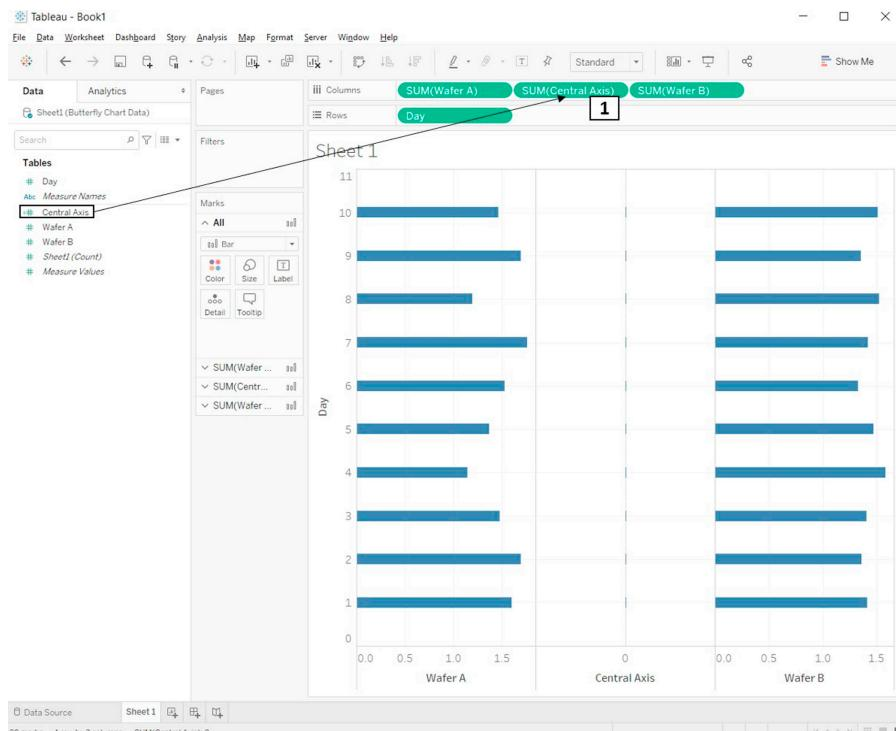

FIGURE 2.28 Step 6 in Section 2.3.
**Step 6:** Drag and drop the “Central Axis” between the “Wafer A” and “Wafer B” pills [1] in the Columns (Figure 2.28).